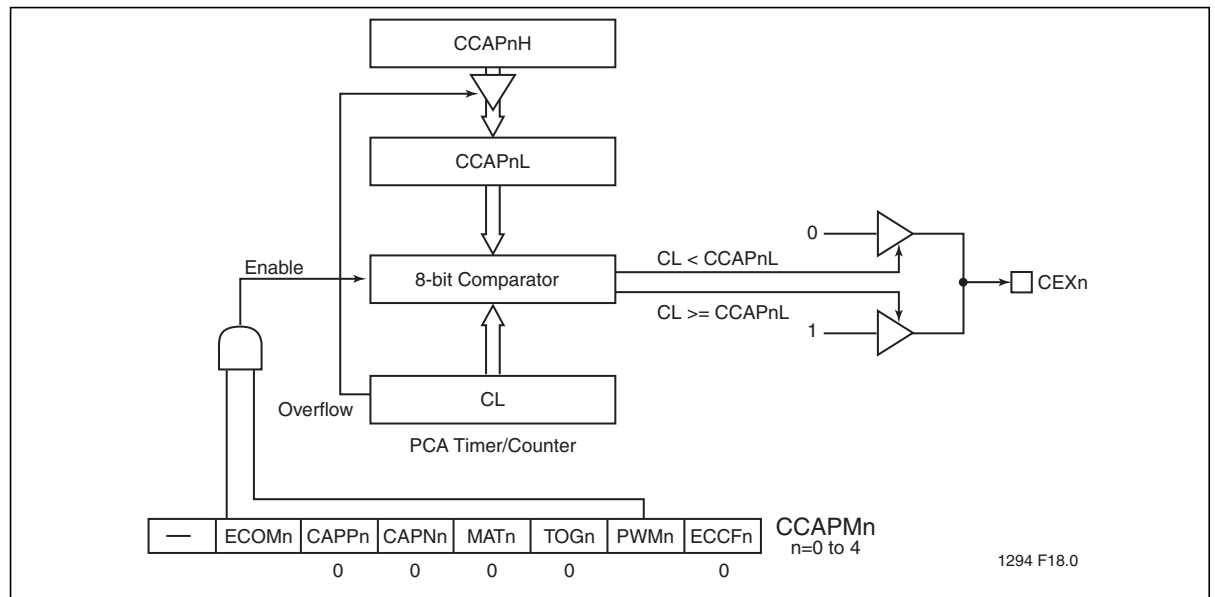

Figure 23:PCA Pulse Width Modulator Mode
The Pulse Width Modulator (PWM) mode is used to generate 8-bit PWMs by comparing the low byte of the PCA timer (CL) with the low byte of the compare register (CCAPnL). When $CL < CCAPnL$ the output is low. When $CL \geq CCAPnL$ the output is high. To activate this mode, the user must set the PWM and ECOM bits in the module's CCAPm SFR. See Figure 23 and Table 22.